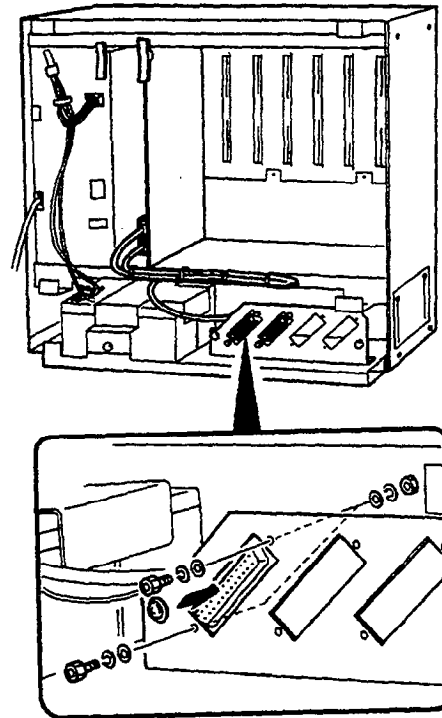
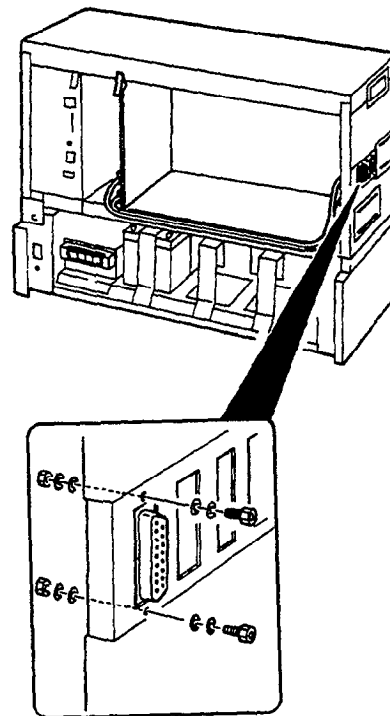

Figure 3-108 Connecting the MIF Cable Assembly and the MIF-F(A)-10 KTU to the ESF-SB-10 KSU
Figure 3-109 Connecting the MIF Cable Assembly and the MIF-F(A)-10 KTU to the ESF-XB-10 KSU
The MIF-F(A)-10 KTU can be installed in an Option Slot (OP) or in one of the four Interface/Option Slots (IF1/OP1 ~ IF4/OP4), in the ESF-SB-10 KSU, ESF-XB-10 KSU, or the first ESF-XE-10 KSU installed. This KTU is shipped with two cable assemblies (MIF cable assembly). One end of each cable has an RJ35 (8-pin) connector. The other end of the cable terminates at an RS-232 connector. This connector must be mounted on the KSU. This same connection procedure must be performed on the ESF-XB-10 KSU of ESF-XE-10 KSUs. Refer to Figure 3-108 - Connecting the MIF Cable Assembly and the MIF-F(A)-10 KTU to the ESF-SB-10 KSU and Figure 3-109 - Connecting the MIF Cable Assembly and the MIF-F(A)-10 KTU to the ESF-XB-10 KSU.
3. Connect the MIF Cable Assembly to CN7 and CN10 on the MIF-F(A)-10 KTU and the KSU. Refer to Figure 3-108 - Connecting the MIF Cable Assembly and the MIF-F(A)-10 KTU to the ESF-SB-10 KSU.